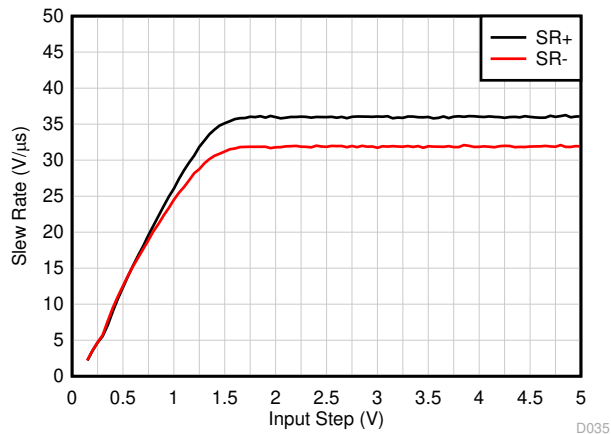

Figure 6-15. Slew Rate vs Input Step Voltage
(1) Specified by characterization only.
(2) Disable time (t_{OFF}) and enable time (t_{ON}) are defined as the time interval between the 50% point of the signal applied to the SHDN pin and the point at which the output voltage reaches 10% (disable) or 90% (enable) of its final value.
(3) See Figure 6-15 for more information.